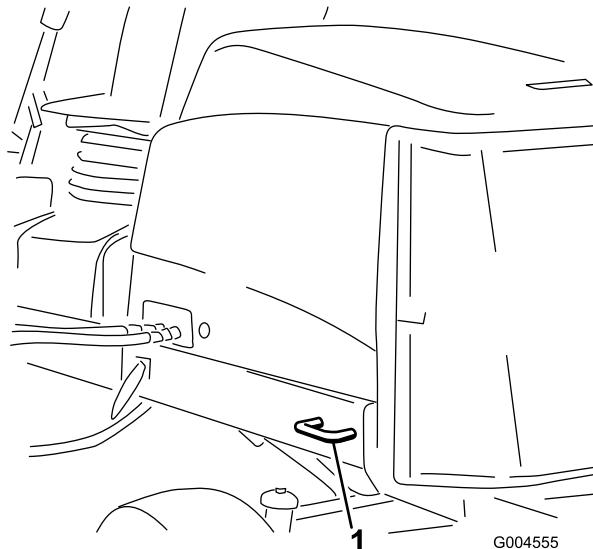

Figure 35
- Rear—each side of the machine on the rear frame (Figure 35)